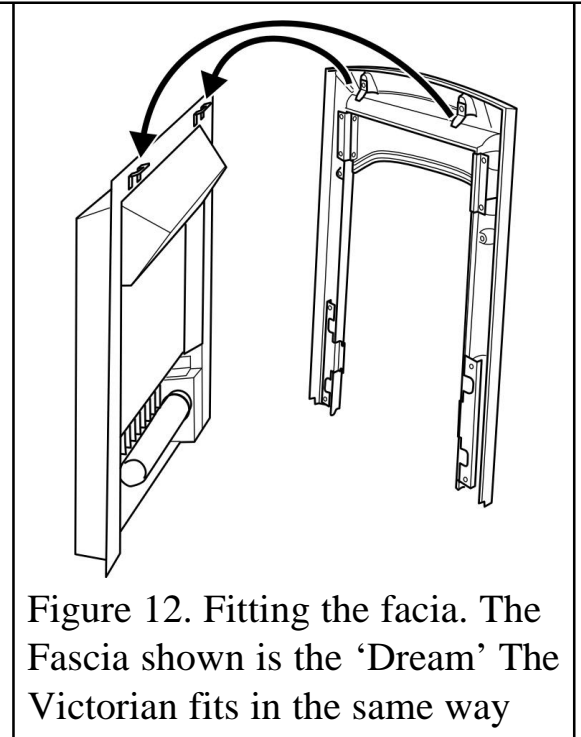

Figure 12. Fitting the fascia. The Fascia shown is the 'Dream' The Victorian fits in the same way
1. Hook the brackets on the rear of the main fascia over the brackets on the heater (See figure 12).
- 1.* Fit the main fascia to the heater by hooking the brackets on the rear of the fascia over the brackets on the heater (See figure 12).